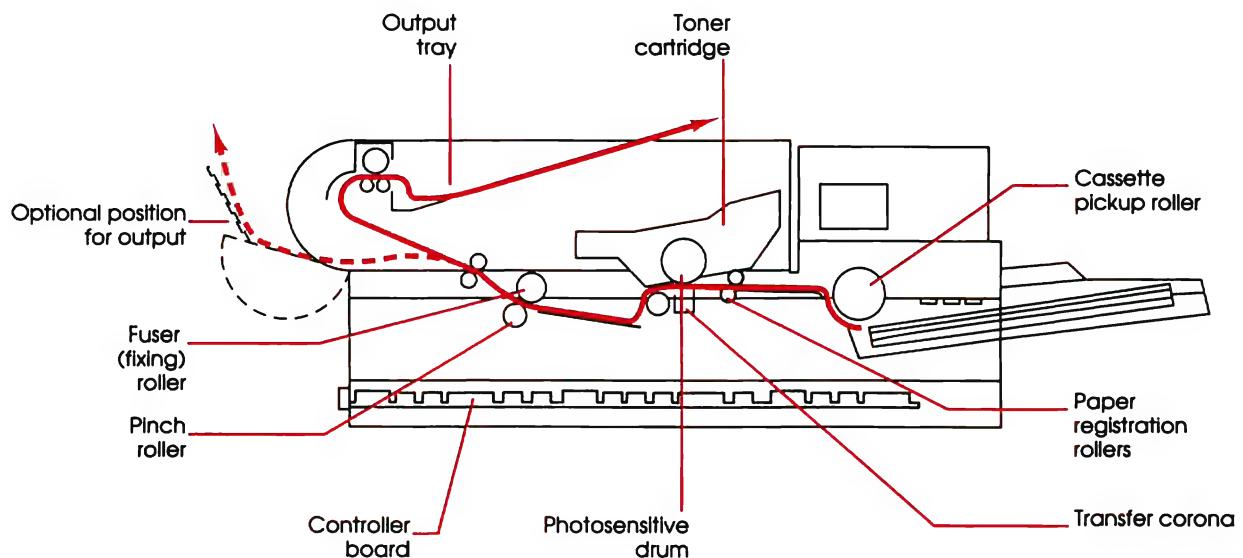

Figure 5-4
2. The controller asserts a Print signal. This signal tells the print engine to take a sheet of paper out of the tray (or other selected source), and to position it for printing. Figure 5-4 shows the paper path for face-down paper delivery during the printing process, and the location of the mechanical components discussed in this section.